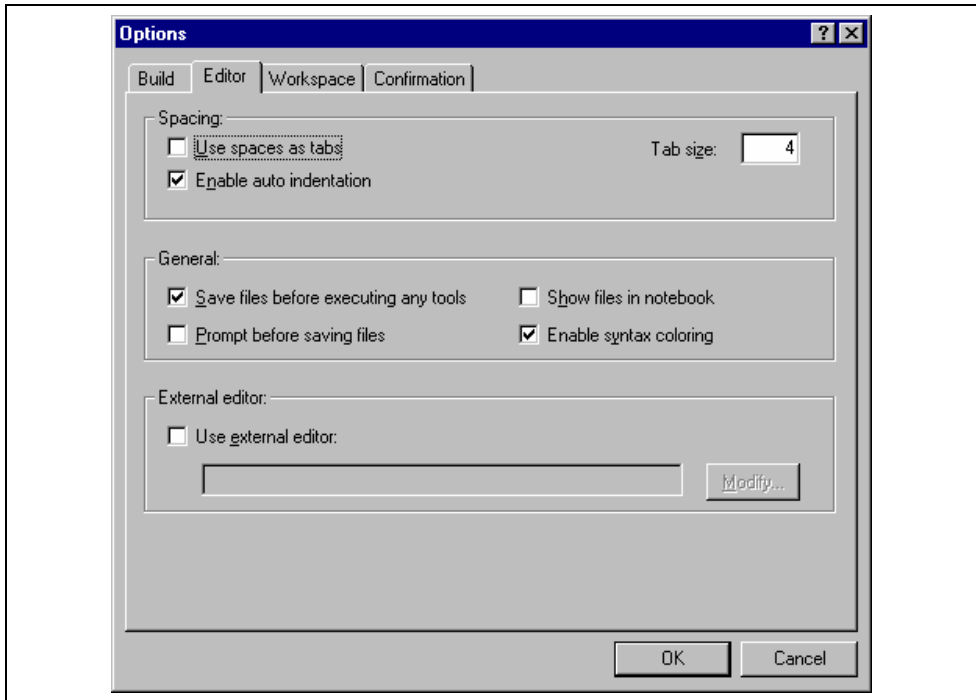

Figure 6.11: Options Dialog Editor Tab
1. Select [**T**ools->**O**ptions...]. The “Options” dialog will be displayed. Select the “Editor” tab (figure 6.11).
The Hitachi Embedded Workshop allows you to customize file save on the “Editor” tab of the “Options” dialog (figure 6.11). To open the tab, select [Tools->Options...] and click the “Editor” tab.